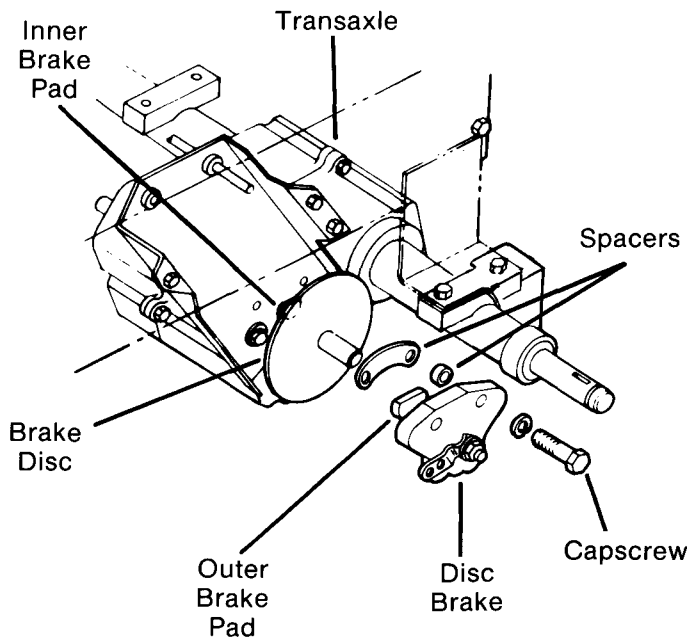

FIG. 60
- F. Remove two capscrews securing disc brake to transaxle. Pay special attention to the order of parts (spacers, outer brake pad and back-up plate) when removing disc brake. Remove disc brake. (Fig. 60)
- G. Slide brake disc off transaxle output shaft, inner brake pad can be removed at this time. (Fig. 60)
- A. Remove two capscrews securing disc brake to transaxle. (Fig. 60) Disc Brake will pivot on brake adjustment rod.
**NOTE:** Location and position of both flat and tube type spacers on inside of disc brake for reassembly. (Fig. 60)
- C. Pull brake disc off of transaxle output shaft, inner brake pad can now be removed. (Fig. 60)